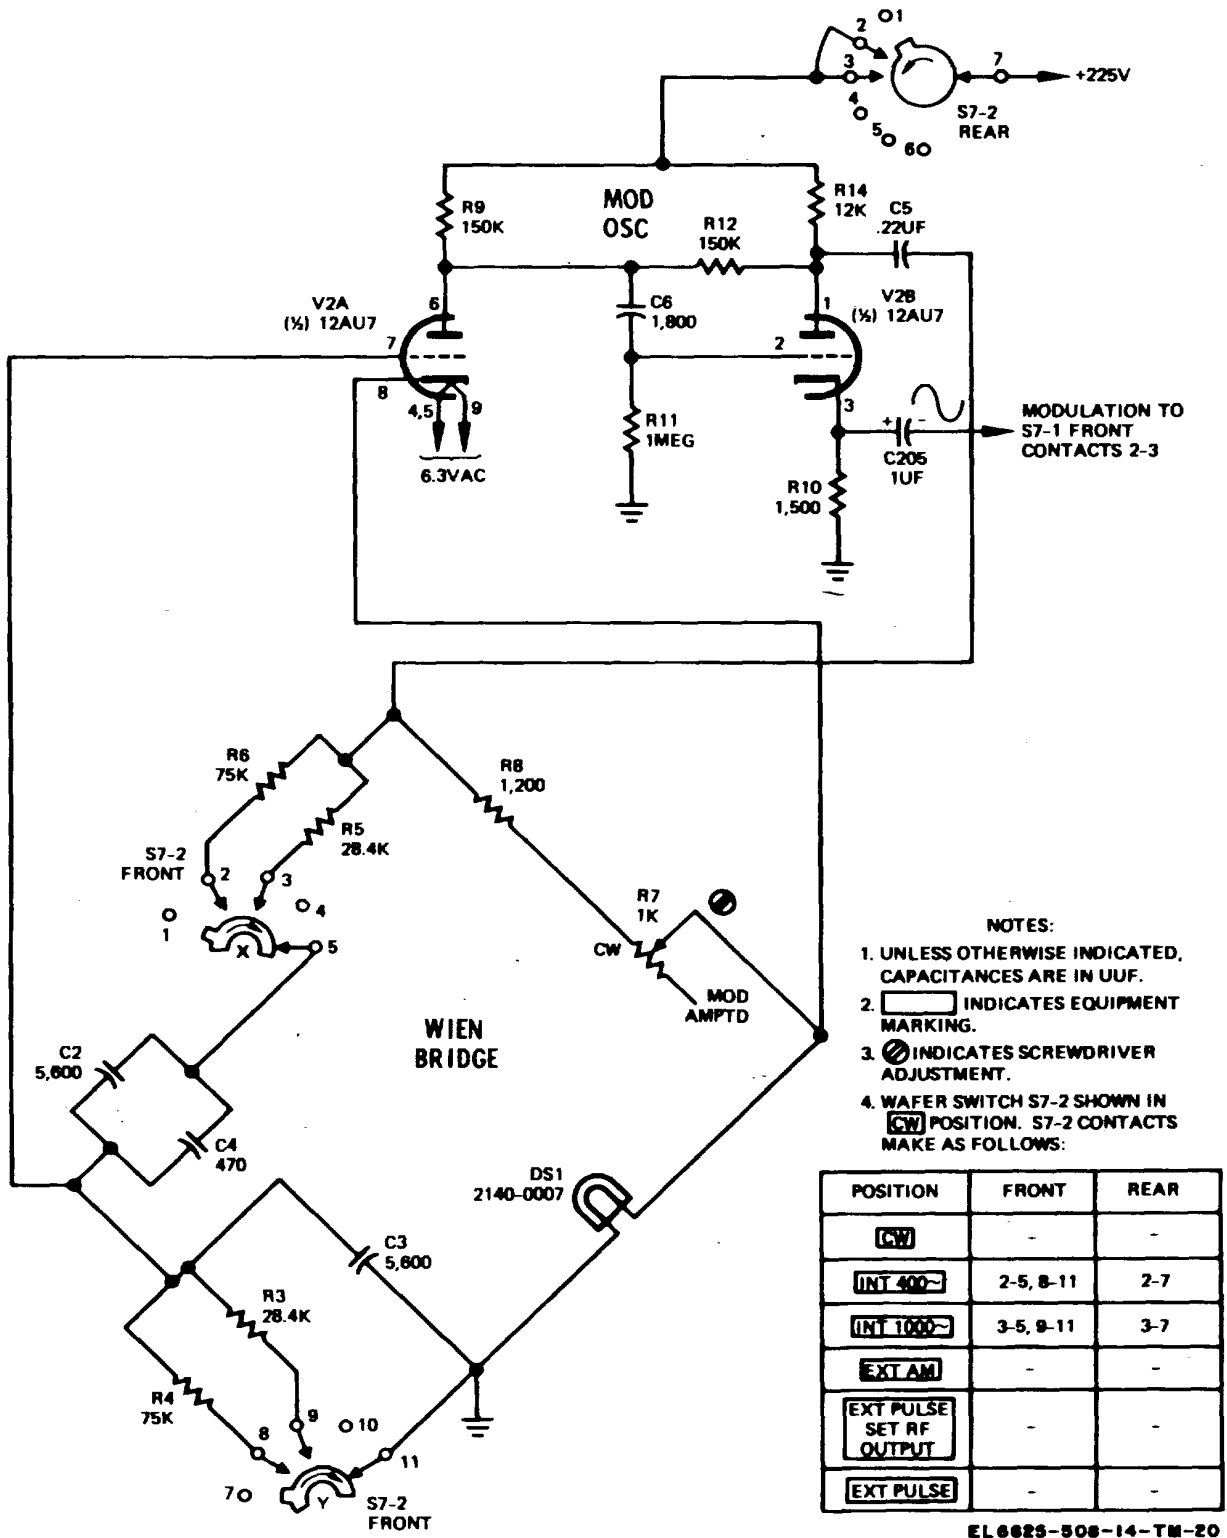

Figure 5-11. Modulation oscillator circuit, schematic diagram.
a. The modulation oscillator (figure 5-11) consists of resistance-coupled amplifiers V2A, V2B connected in a Wien-bridge circuit.